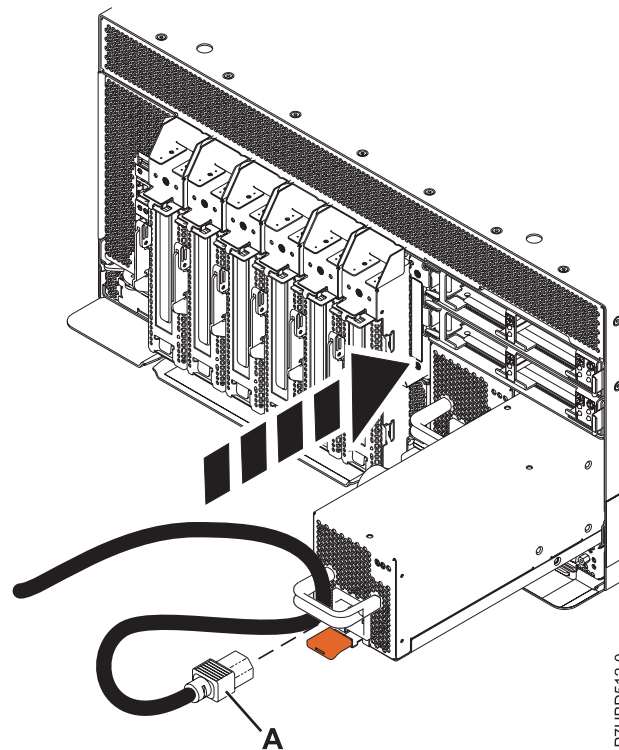

Figure 6. Replacing the power supply
4. Align the power supply with the power supply bay and slide the power supply into the system until the latch locks in place, as shown in Figure 6.
5. Attach the power cable (A), as shown in Figure 6.